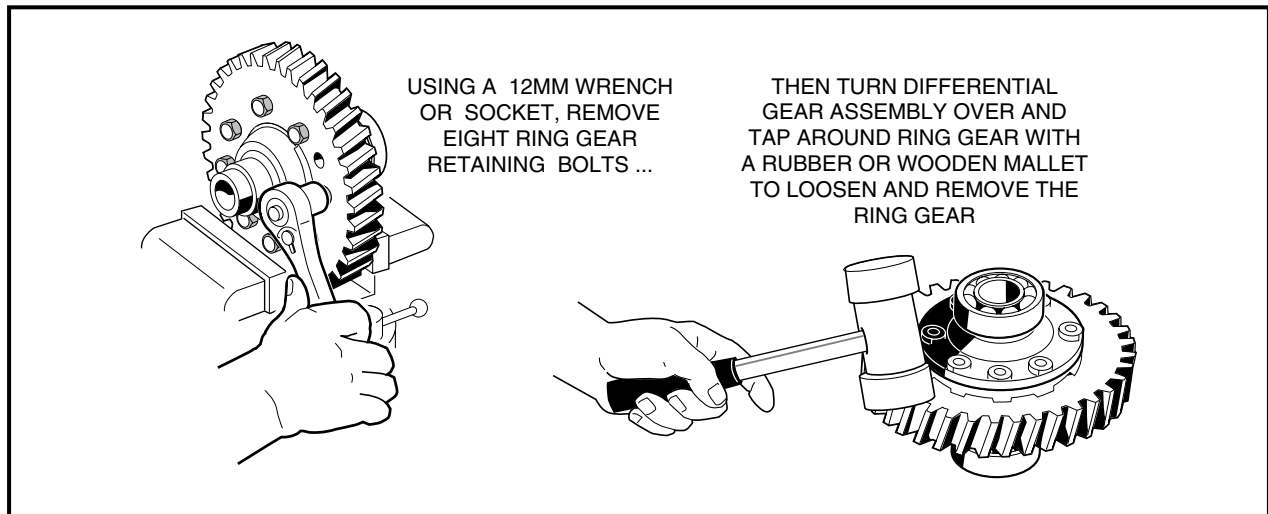

FIGURE 10-46
1. Use a 12mm wrench or socket to remove eight ring gear retaining bolts (80) (**Figure 10-6, Page 39**), then remove the ring gear from the assembly. It may be necessary to tap the ring gear off with a *wooden or rubber* mallet (**Figure 10-46, Page 54**). See NOTE below.